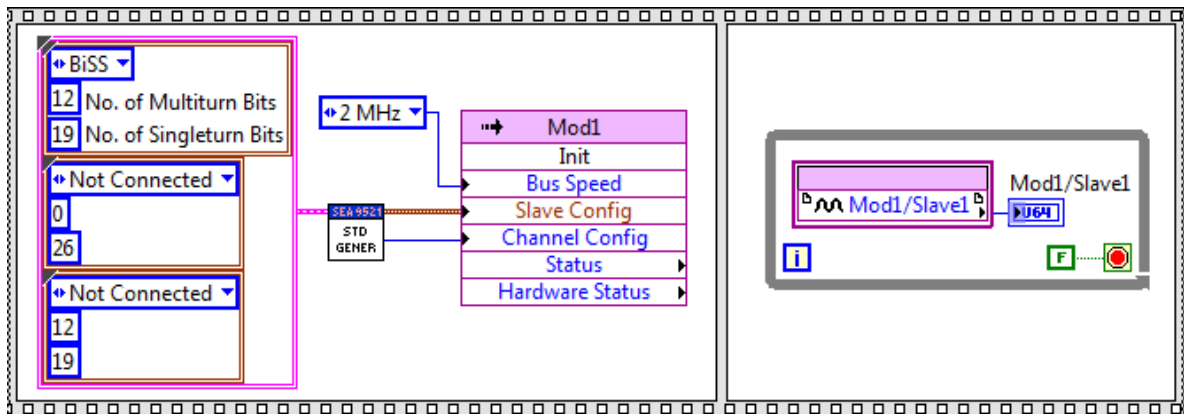

Fig. 7: Quick Start – Final block diagram
15. Repeat steps 12 and 13 with a FPGA IO node and select the *Slave1* input (*Slave1* represents the first device on channel 1) to read the BiSS/SSI data from the encoder attached to channel 1. Create an indicator for the data input and place a while loop around the IO node. Add a flat sequence to ensure initialization before data acquisition, see Figure 7.